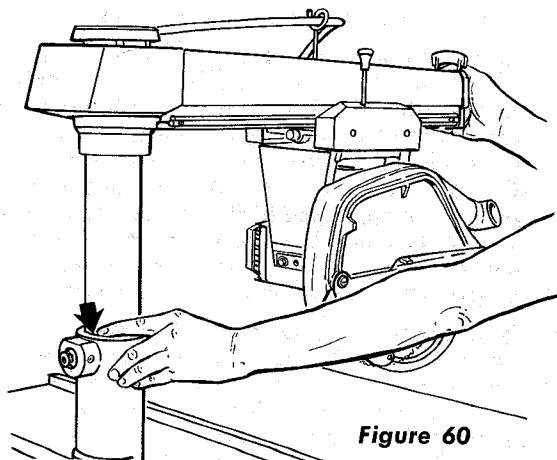

Figure 60
- (1) Tighten arm latch handle.
- (2) Grasp the arm latch handle with one hand and hold fingers of other hand at parting line between column tube and column support. (See figure 60.)
- (3) Apply gentle side force to the radial arm in opposing directions. Any looseness between column and column support (indicated by arrow in figure 60) can be felt with fingers.
- (4) If looseness can be felt, perform the following operations: